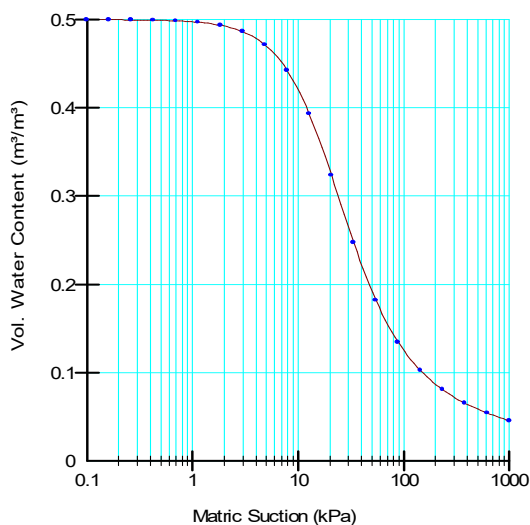
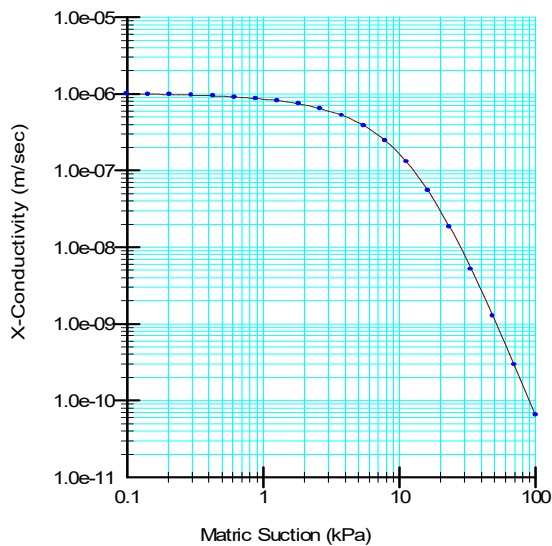

Figure 3. Volumetric water content function of the silt material.
Figure 4. Hydraulic conductivity function of the silt material.
This analysis will include both saturated and unsaturated zones. Therefore, it is necessary to do a saturated-unsaturated type of analysis. For saturated-unsaturated conditions, the hydraulic conductivity (K) is not a constant. As the soil de-saturates, the hydraulic conductivity diminishes. The hydraulic conductivity consequentially becomes a function. The K function is typically estimated from a volumetric water content (VWC) function (Figure 3) and looks like the one shown in Figure 4.
SEEP/W includes a set of sample VWC functions for soils of varying texture. The VWC function adopted here is for a silt material with a saturated water content of 0.5 (Figure 3). The K function in Figure 4 is then estimated using the Van Genuchten method, with the saturated hydraulic conductivity (K_{sat}) specified as 1×10^{-6} m/sec.